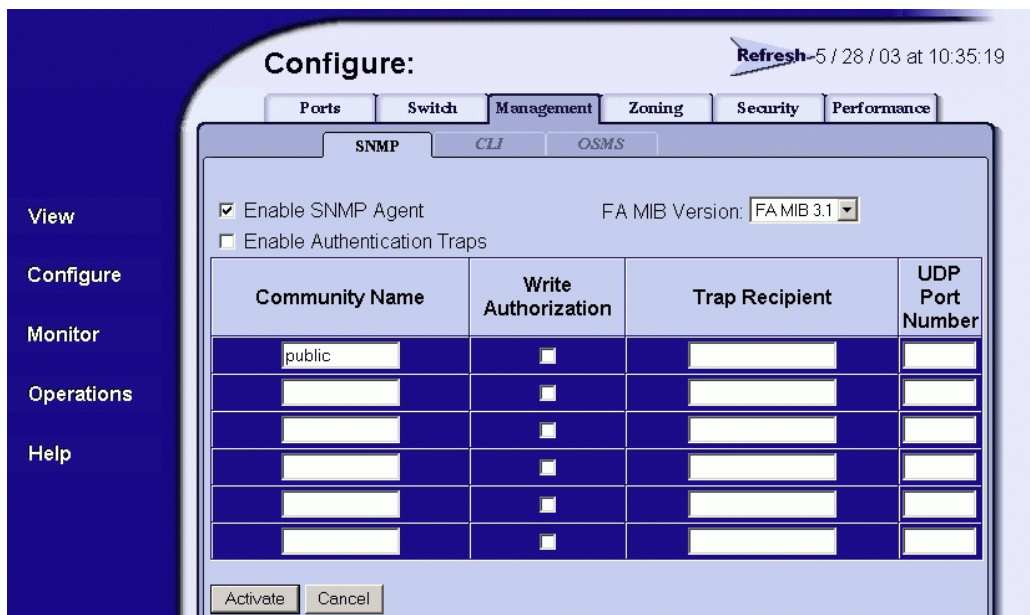

Figure 2-12 Configure Panel (Management Page with SNMP Tab)
2. At the *Configure* panel, click the *Management* tab. The *Management* page displays with the *SNMP* tab selected (Figure 2-12).